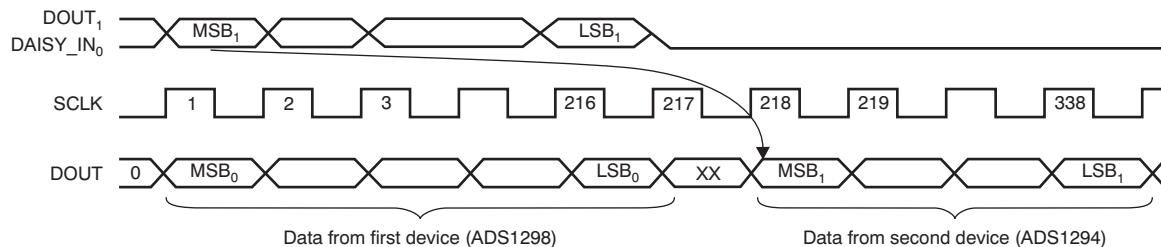

Figure 57. Daisy-Chain Timing for Figure 56b
Daisy-chain mode is enabled by setting the DAISY_EN bit in the CONFIG1 register. Figure 56b shows the daisy-chain configuration. In this mode SCLK, DIN, and CS are shared across multiple devices. The DOUT of one device is hooked up to the DAISY_IN of the other device, thereby creating a chain. One extra SCLK must be issued between each data set. Also, when using daisy-chain mode, the multiple readback feature is not available. Short the DAISY_IN pin to digital ground if not used. Figure 2 describes the required timing for the ADS1298 shown in Figure 57. Data from the ADS1298 appear first on DOUT, followed by a *don't care* bit, and finally by the status and data words from the ADS1294.
1. One extra SCLK must be issued between each data set (See Figure 57).